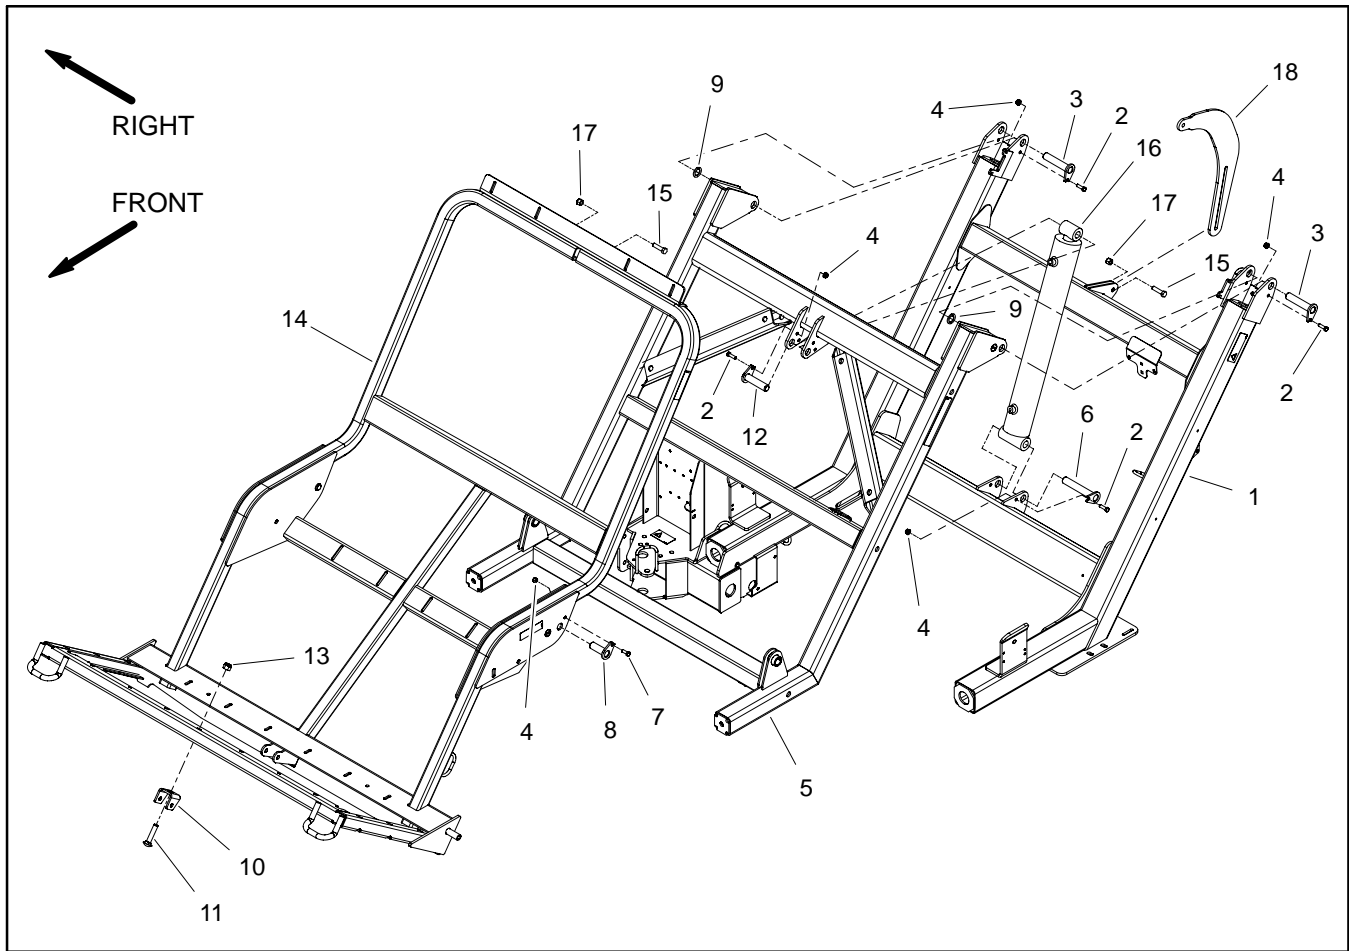

Figure 12
### Disassembly (Fig. 12)
2. Disassemble frame as needed using Figure 12 as a guide.
### Assembly (Fig. 12)
1. Assemble frame using Figure 12 as a guide.